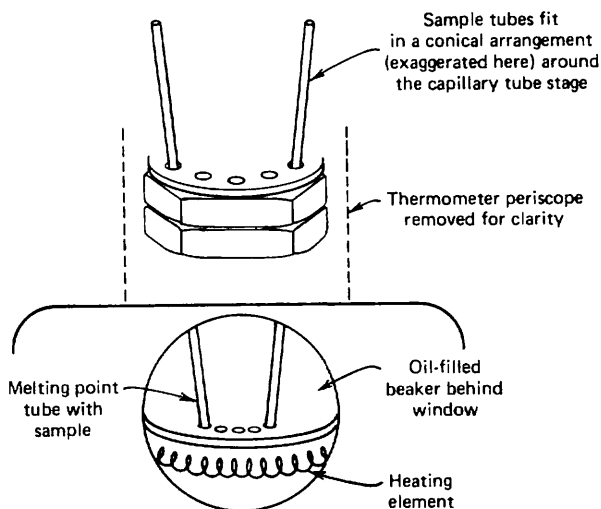

Fig. 52 Close-up of the viewing system.
5. Insert your capillary tube in one of the capillary tube openings in the capillary tube stage. *This is not simple.* Be careful. If you snap a tube at this point, the entire unit may have to be taken apart to remove the pieces. It appears you have to angle the tube toward the center opening and angle the tube toward you (as you face the instrument) at the same time (Fig. 52). It's as if they were placed on the surface of a conical funnel.